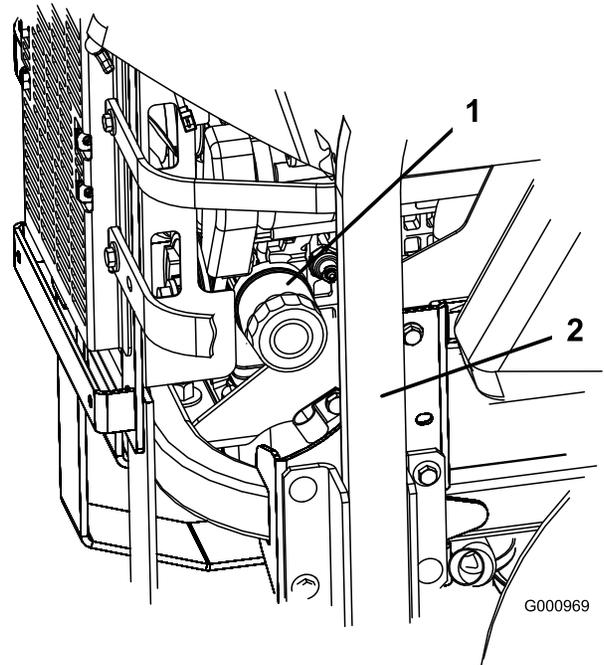
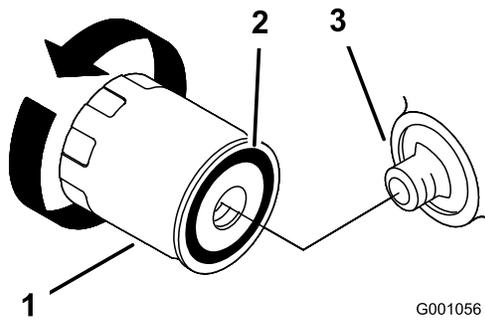

Figure 41
Figure 42
2. Turn the filter counterclockwise to remove it (Figure 41 and Figure 42).